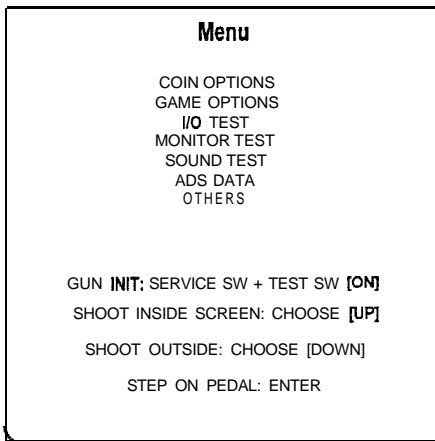

Figure 3: Menu Screen
2. Turn the TEST switch OFF, then ON again, and the TEST MENU screen, as in Figure 3, will appear.